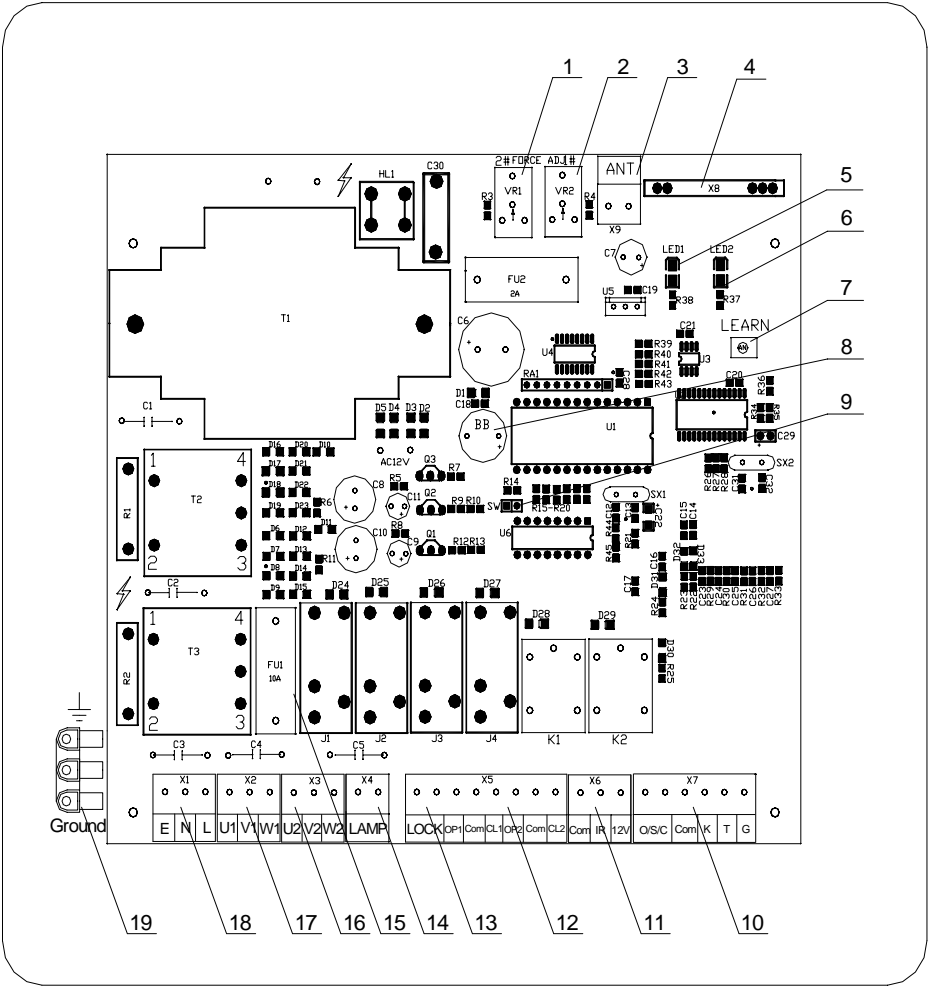

Fig.24 Control board diagram
- Press the 'LEARN' button on the control board (see Fig.24 No.7), then the green indicator 'LED2' (see Fig.24 No.6) will be on.
- Slowly rotating the sensitivity sensor 'FORCE ADJ' (see Fig.24 No.1 and No.2) with a screwdriver, 1# sensor can be used to adjust primary operator, 2# sensor can be used to adjust secondary operator.
- Place the jumper cap on both pins of terminal 'SW' see Fig.24, No.9, the gates will stay open for  $30 \pm 3$  seconds before automatically closing.